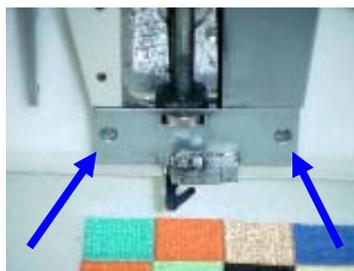

Fig. 7
2. Remove the lower bearing guide plate by removing the two screws. See fig. 7.